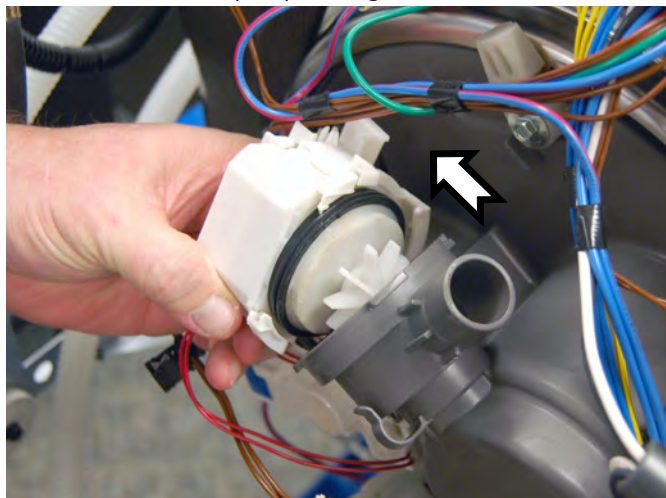

Figure 7
6. Remove the drain pump, see figure 7.